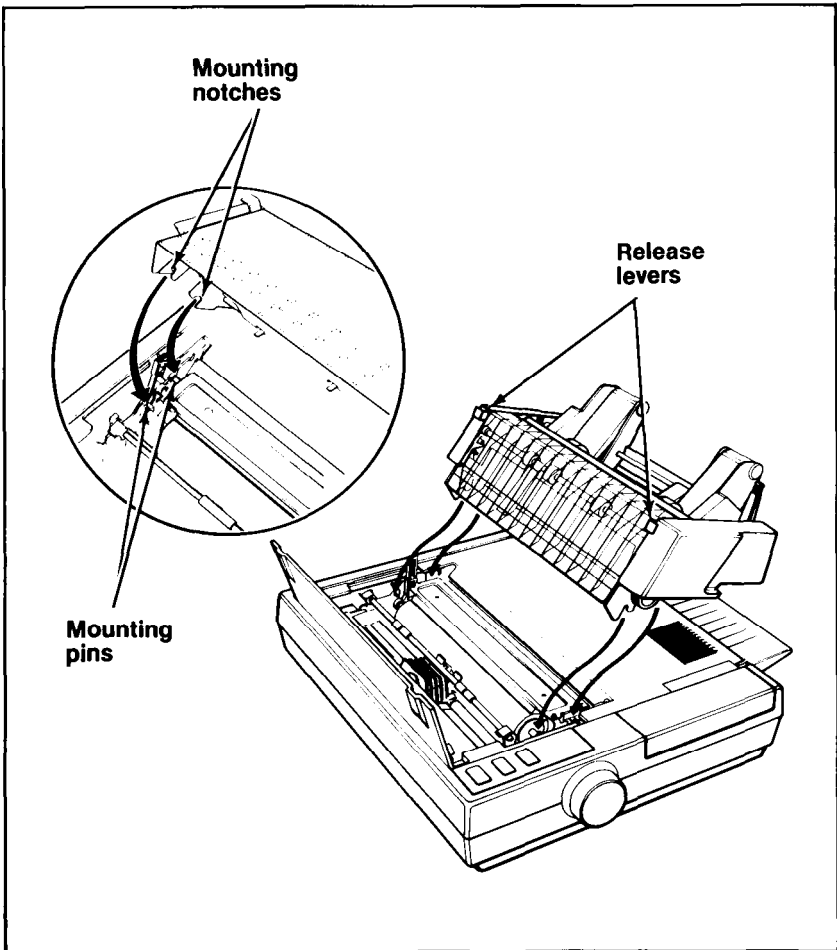

Figure 2-2. Installing the cut sheet feeder
6. Now locate the rear mounting pins on the LQ as shown in Figure 2-2. The rear notches on the cut sheet feeder unit rest on these mounting pins.